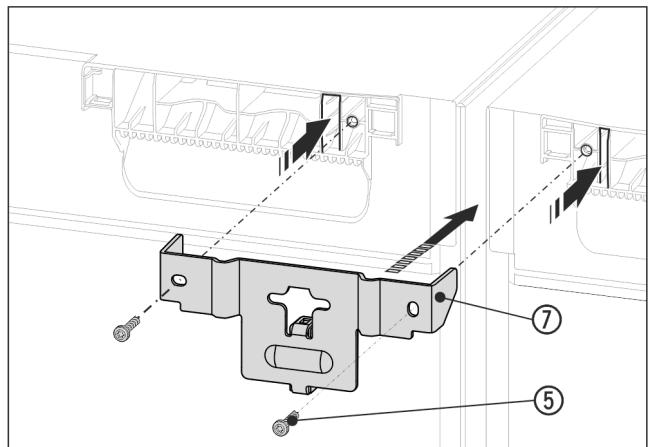

Fig. 15 Example illustration
- Slide the bracket *Fig. 15 (7)* onto the appliance ceiling with the lugs and with the spacer between the appliances. Screw in firmly with 2 screws *Fig. 15 (5)*.